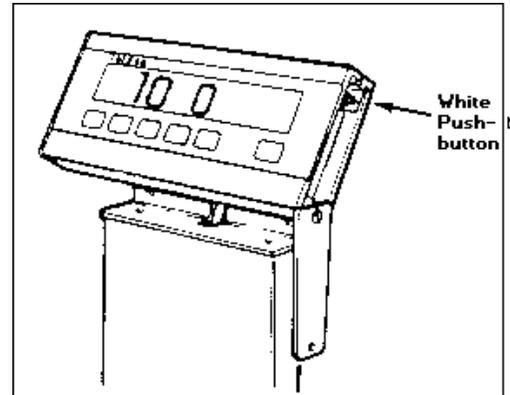

Figure 9
- 1). Remove the top screw that secures the end cap on the right side of the display housing, and loosen the lower screw so the end cap can be rotated 180°, allowing access to the inside of the enclosure (Figure 9).
- 3). After the power-up sequence is completed, press and release the white pushbutton located on the end of the Display PCB (Figure 9). The scale will first display [10 0], indicating the start of the setup mode.